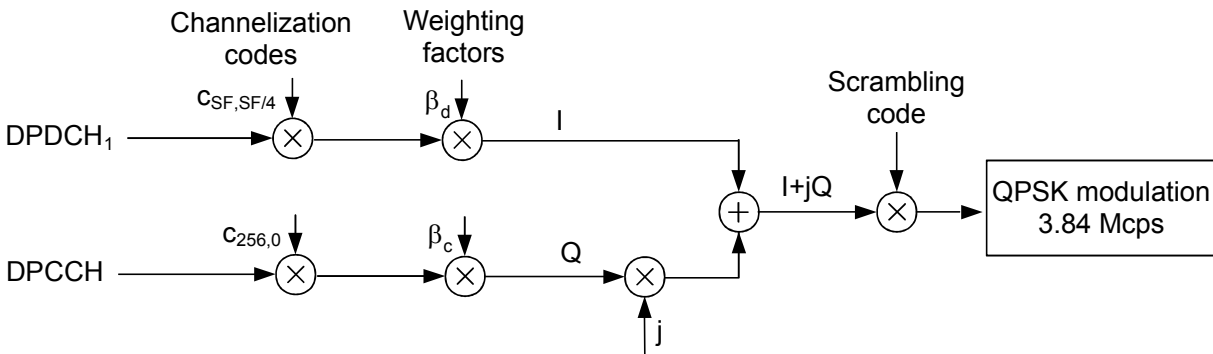
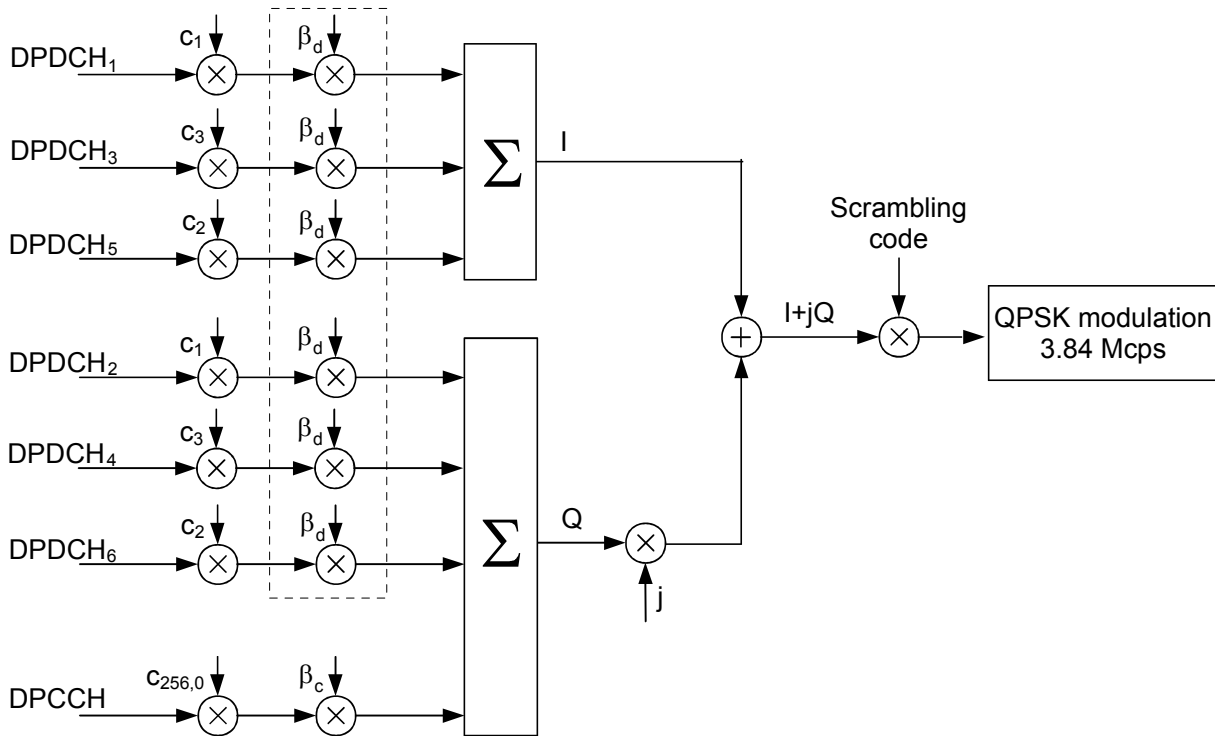

Fig. 4-14 Uplink WCDMA signal with up to 1 data channel
Fig. 4-15 Uplink WCDMA signal with up to 6 data channels
- The *QPSK²* mode is used to measure the QPSK modulated signal with a chip rate of 3.84 Mcps. Examples of valid signals are a single DPCCH signal, a single DPDCH signal or a combination of a DPCCH with one DPDCH (see Fig. 4-14 on p. 4.39) and equal gain factors: The DPCCH and the DPDCH are summed to a complex-valued signal with a constellation diagram that is still QPSK-like). The channelization code, scrambling code and the symbol rate are irrelevant to the measurement. This mode is faster than the *WCDMA* mode and is useful to adjust the modulator of the UE transmitter (see description in section QPSK Measurements \(Modulation – QPSK\) on p. 4.41 ff.).
The actual modulation vector of the output signal of the UE under test is measured over a complete slot and stored as Z , using a matched filter (an RRC filter with a roll-off $\alpha = 0.22$ and a bandwidth equal to the chip rate). A reference signal R with variable timing, RF carrier frequency f_{Carr} and power (gain factors; see Fig. 4-14 on p. 4.39 and Fig. 4-15 on p. 4.40), is constructed mathematically and filtered by the same matched filter.
The WCDMA signal is composed of one control channel (DPCCH) and n data channels (DPDCH), where n is between 0 and 6. The symbols of all channels are first spread to the chip rate by the channelization codes c , weighted by gain factors β and summed to form a complex-valued stream of chips. This complex-valued signal is then scrambled by a long or short scrambling code and finally QPSK modulated. For a WCDMA signal consisting of the DPCCH plus one DPDCH, the different spreading and modulation stages are shown in see Fig. 4-14 below.
According to the standard, the DPCCH is always spread with code $c_{256,0}$, corresponding to a symbol rate of 15 kbps. In the signal configuration of Fig. 4-14, where one DPDCH is transmitted, spreading factors of 4, 8, 16, 32, 64, 128 or 256 may be used, and the corresponding DPDCH channelization codes are $c_{SF,SF/4}$. The CMU sets the spreading factor implicitly as the symbol rate for the first DPDCH can be selected. With several DPDCHs, $DPDCH_n$ is spread by $c_{4,k}$, where $k = 1$ if $n \in \{1, 2\}$, $k = 3$ if $n \in \{3, 4\}$, and $k = 2$ if $n \in \{5, 6\}$. The corresponding signal configuration is shown in Fig. 4-15 below.